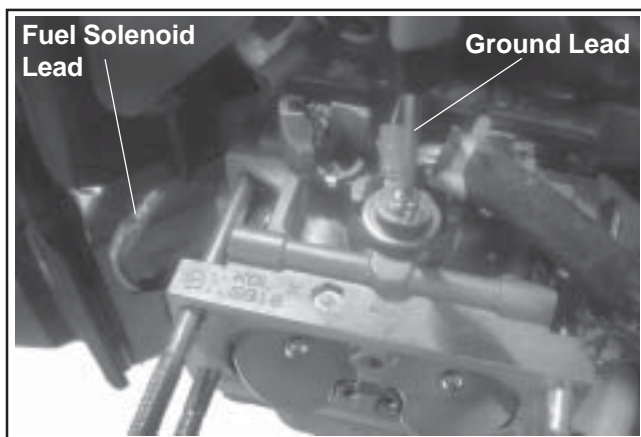

Figure 9-21. Removing Fuel Solenoid and Ground Leads (Two-Barrel Model Pictured).
2. Remove the carburetor mounting nuts. See Figure 9-21.